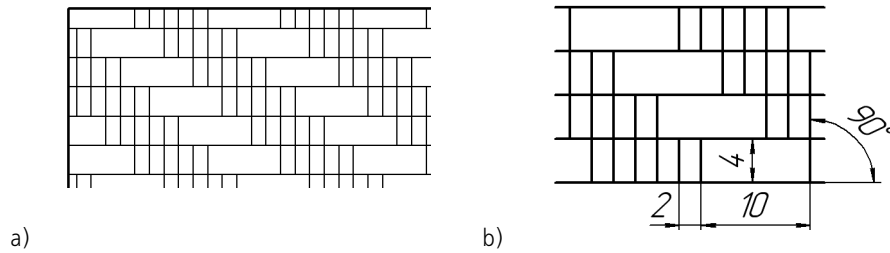

Fig. 8.15. Salts hatch style:
**3.7.2** Create a hatch style **Salts** (Fig. 8.15). Hatch line style – Thin.